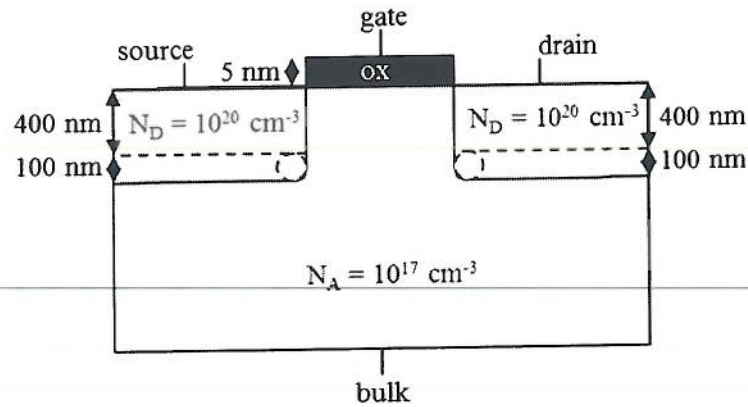

Figure 2.1: Material cross section of an nMOS.
2. In figure 2.1, the material cross section of an nMOS is given. The workfunction of the gate contact is equal to that of the substrate. The source and drain implants are deep, the depth of the implants is larger than the depletion widths. The gate length is $1\text{ }\mu\text{m}$ and the width $5\text{ }\mu\text{m}$.